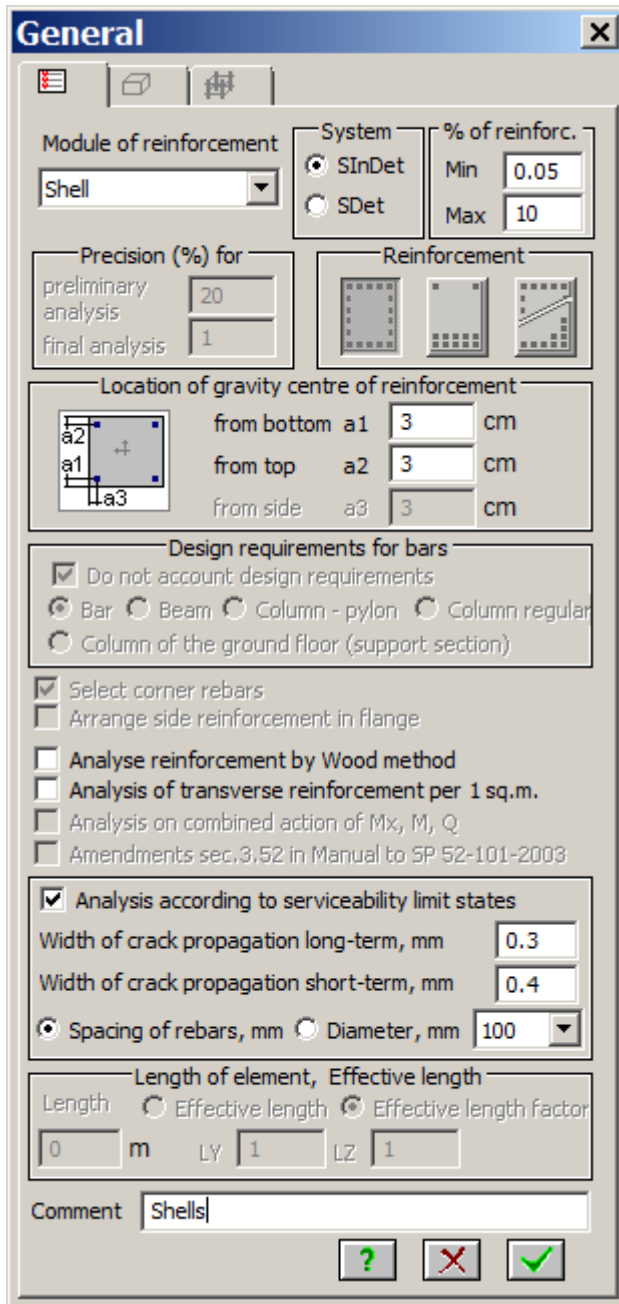

Figure 4.15 **General parameters** dialog box
- ⇒ To define parameters for reinforced concrete structures, in the **Stiffness and materials** dialog box, click the second tab **Reinforced concrete (RC)**.
- ⇒ In the **General parameters** dialog box (see Fig.4.15), define the following parameters for plates: